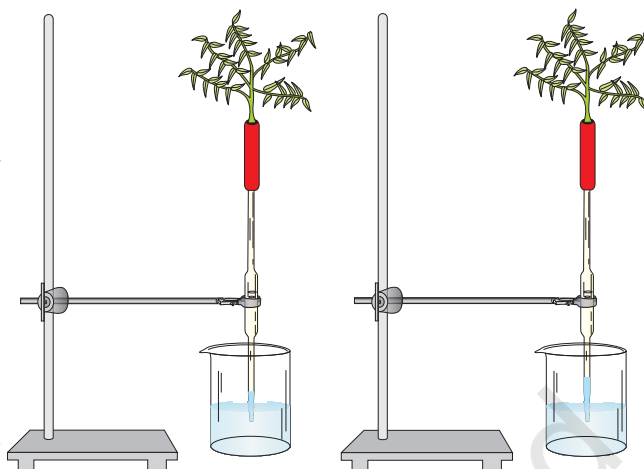

Fig. 25.3 Experimental setup showing suction due to transpiration
- Insert the twig into the other end of the rubber tube and tie a thread to make it air tight (Fig. 25.3).
- Fix the set up with the help of burette stand and clamp as shown in the Fig. 25.3.